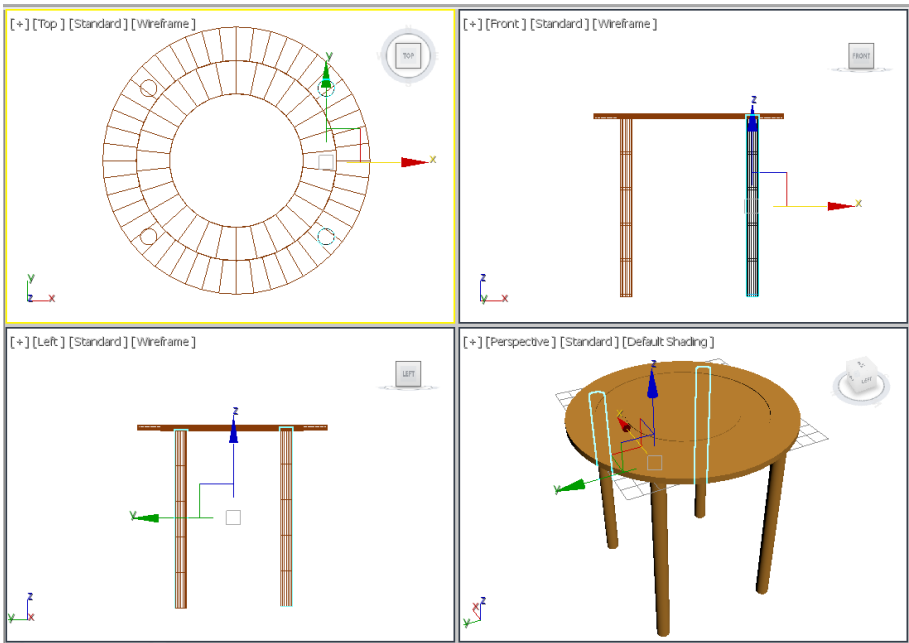

Figure 2-55 The leg003 and leg004 created
- Make sure the **Copy** radio button is selected in the **Object** area and 1 is displayed in the **Number of Copies** spinner of the **Clone Options** dialog box. Next, choose the **OK** button; *leg003* and *leg004* are created, refer to Figure 2-55.